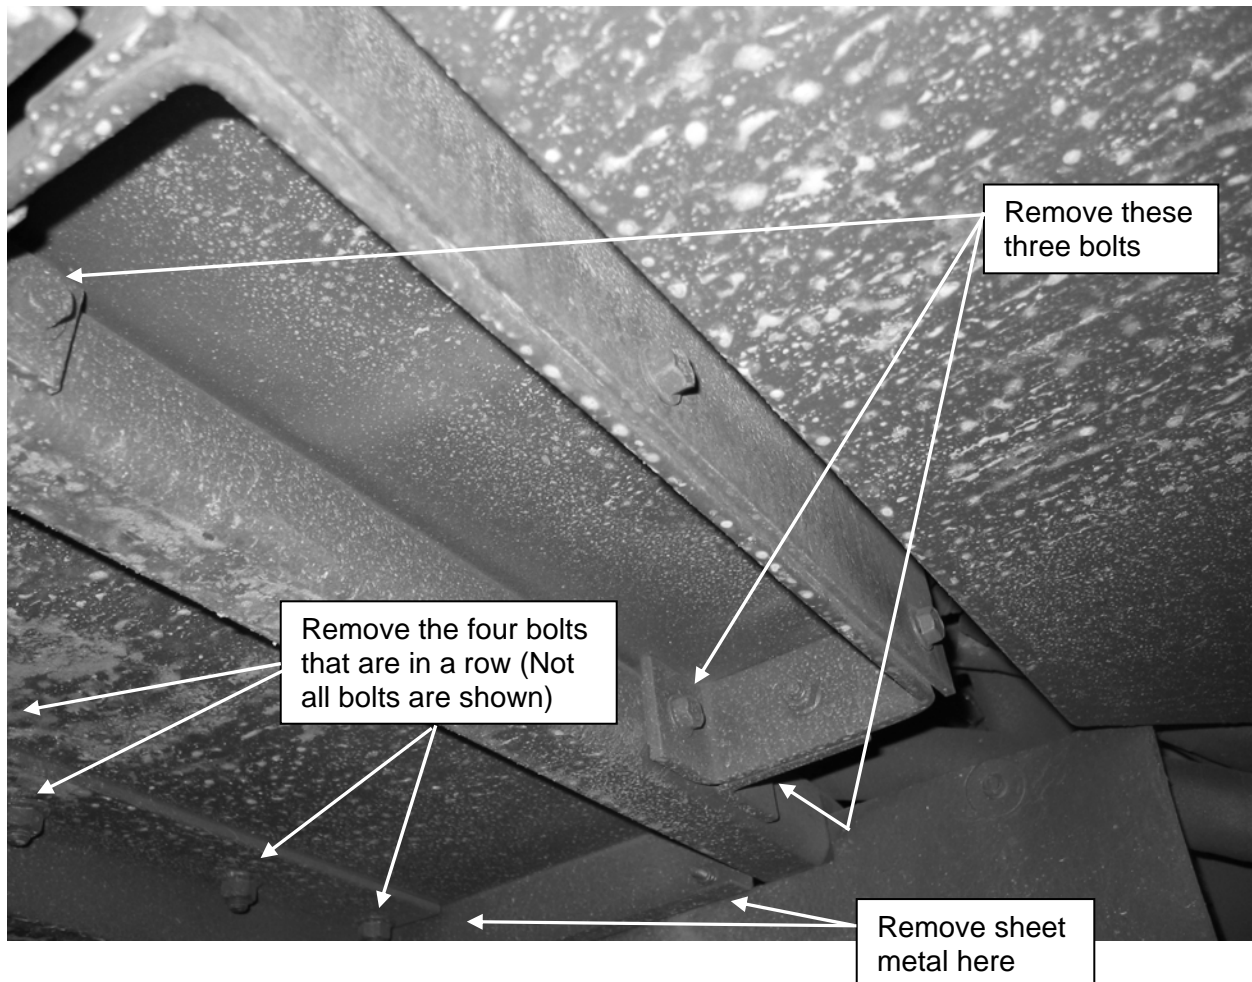

Figure 62. Right Mineblast Bracket location.
- i) Remove the seven bolts identified in Figure 62.